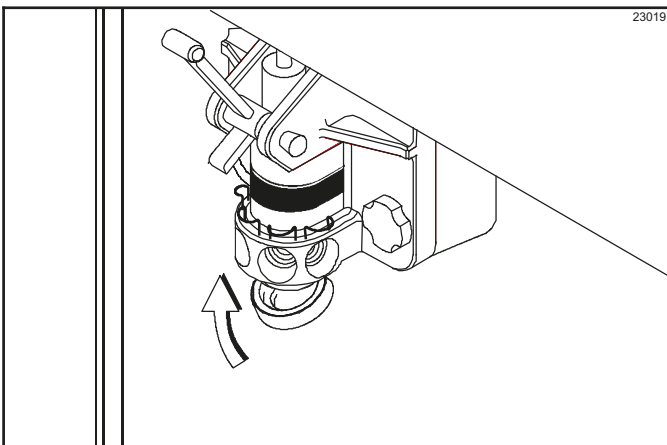

Figure 6-48
13. Place the spout cap O-ring in the spout cap. Fill the spout cap with the cleaning/sanitizing solution. While holding the draw valve closed, install the spout cap over the end of the door spout. This will cause the solution to backflow through the syrup ports. (See Figure 6-48.)